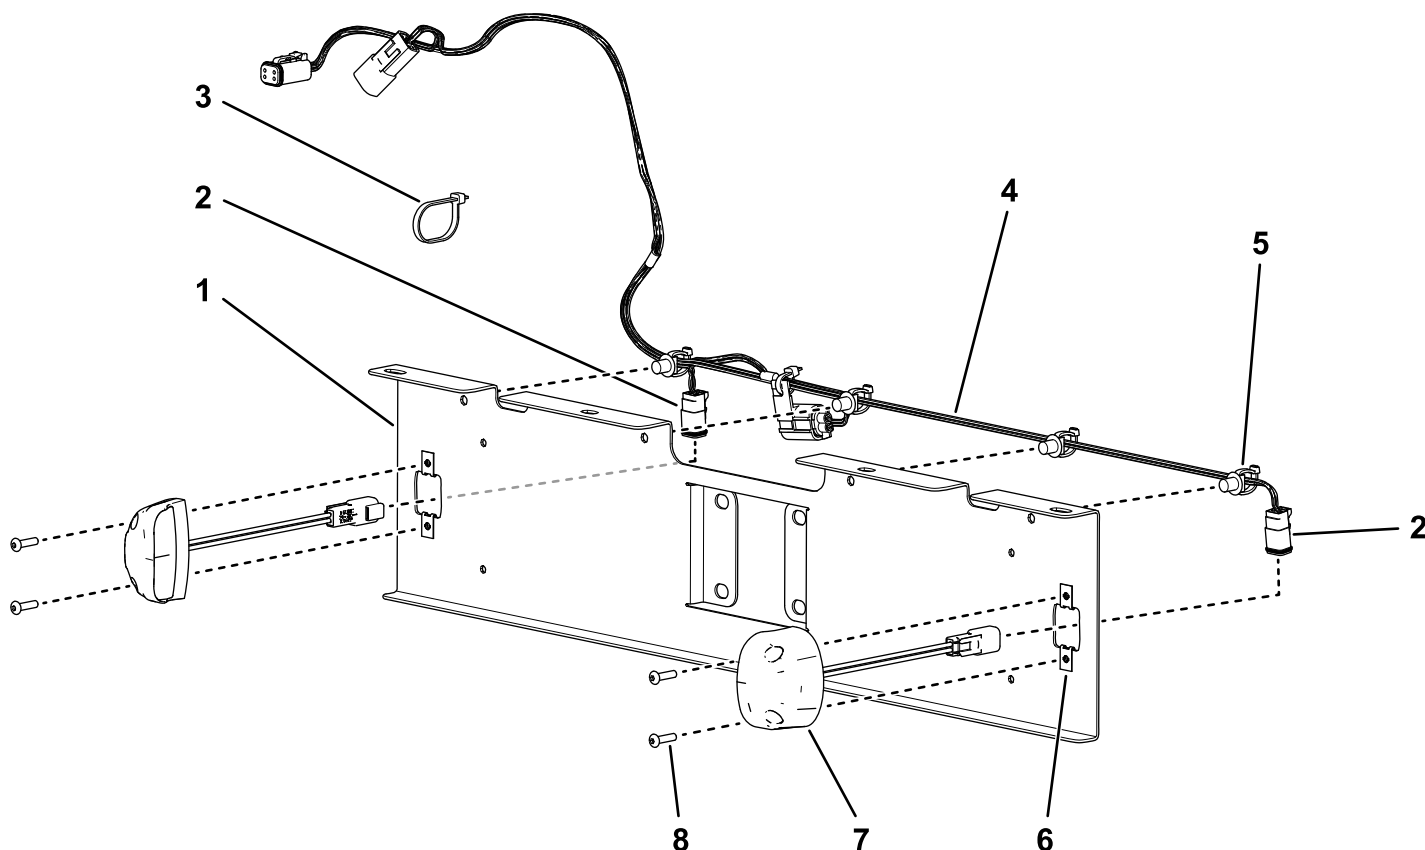

Figure 1
1. Route the license plate wire harness along the top of the license plate bracket, keeping the 2 large connectors and the fuse to the left side (Figure 1).
2. Secure the wire harness to the bracket by pushing the 4 push-in fasteners on the harness into the corresponding holes in the bracket (Figure 1).
3. Route the license plate light connectors through the large holes on either end of the bracket and connect them to the 2 license plate lights (Figure 1).
4. Install the lights to the bracket using 4 hex button-head bolts (#10 x 3/4 inch) and 4 clip nuts as shown in Figure 1.